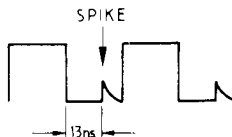

Figure 5-14
- 28. Adjust, via A128 R37, the switching spike of the "Cut-Off monostable Multivibrator" to about 13 ns after the trailing edge (see Figure 5-14).